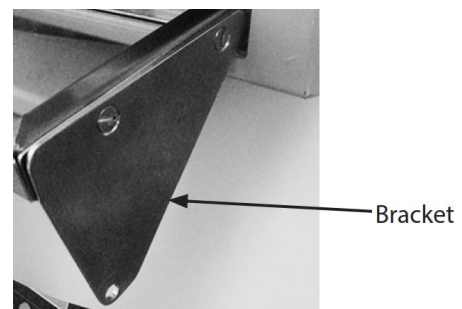

Figure 4-3
3. Install the handle bracket as shown in Figure 4-3, using the screws removed in step 2.